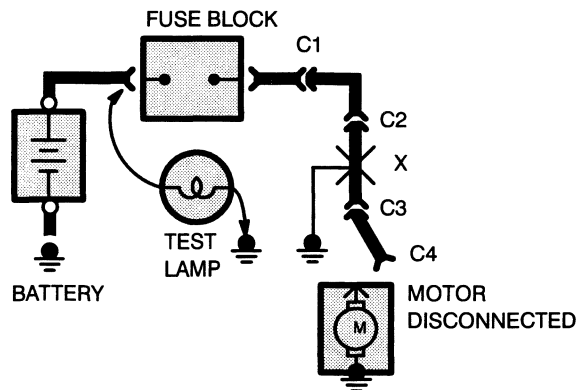

Figure 5—Short Check
A fuse that repeatedly blows is usually caused by a short to ground. It's important to be able to locate such a short quickly (Figure 5).
- Motors: disconnect motor connector (Connector C4 in Figure 5).
5. Disconnect the test lamp lead that is connected to ground, and reconnect it to the load side of the fuse at the connector of the disconnected component. (In Figure 5, connect the test lamp lead to connector C4.)
- If the Test Lamp goes on, the short is in the wiring. You must find the short by disconnecting the circuit connectors, one at a time, until the Test Lamp goes out. For example, in Figure 5 with a ground at X, the bulb goes out when C1 or C2 is disconnected, but not after disconnecting C3. This means the short is between C2 and C3.